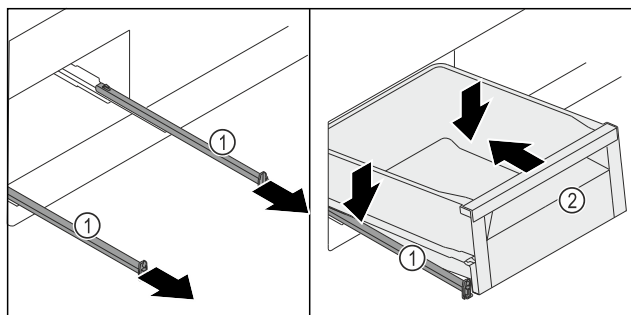

Fig. 124
- Pull out the rails Fig. 124 (1).
- Hold the rails Fig. 124 (1) firmly and place the drawer Fig. 124 (2) diagonally from above onto the rails Fig. 124 (1).
- Push the drawer Fig. 124 (2) on the rails Fig. 124 (1) to the back as far as it will go.